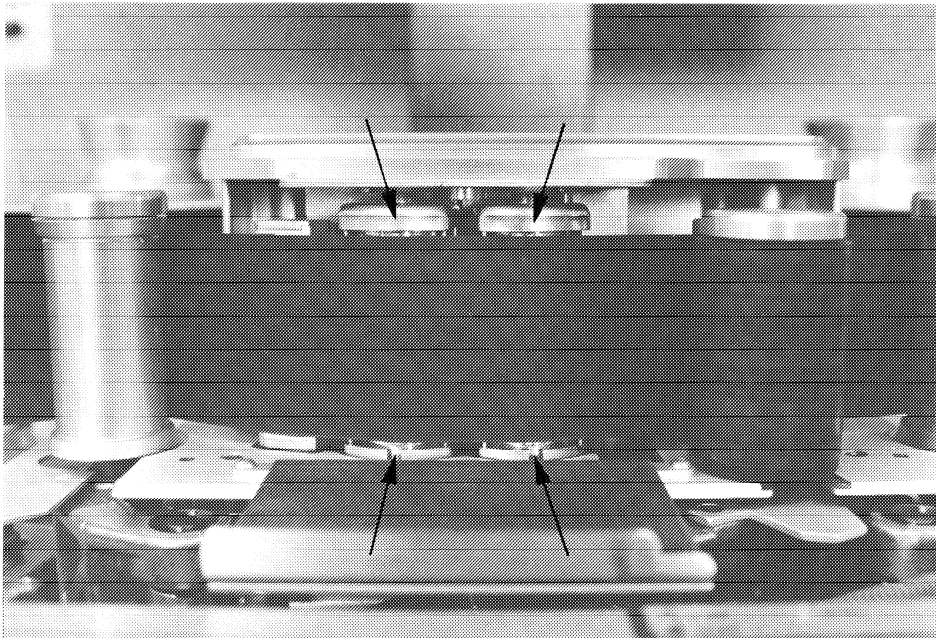

Fig. 1
- Observe tape as it runs across the heads. The tape must neither contact nor display a tendency to contact the edges of the guide rollers and the tape lifter pins. At lower tape speeds the tape develops a tendency to run downwards, thereby exposing the head's shiny face slightly. This, however, is normal and is caused by gravity. See Fig. 1.